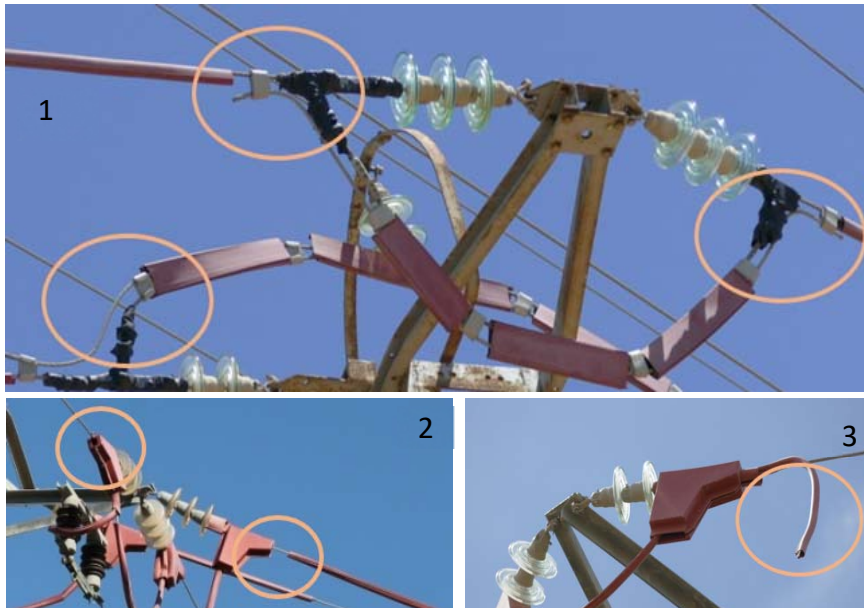

Figure 18: Common defects in the insulating systems. 18.1: bare metal parts; 18.2 and 18.3: elements that have become loose.
B) **Covering live elements located near to perching sites with insulating material.** Materials such as rubber, silicone and plastic compounds are used. In the case of the latter, it is common to use preformed pieces (Figure 17.3) in the shape of the piece to cover. Its effectiveness depends on its proper installation and fastening, so that there are no parts lacking insulation and to prevent any pieces separating (Figure 18). If the pieces are badly installed or are in poor condition / have deteriorated, this could lead to electrocutions. Therefore, it is important to indicate the condition of the pieces.